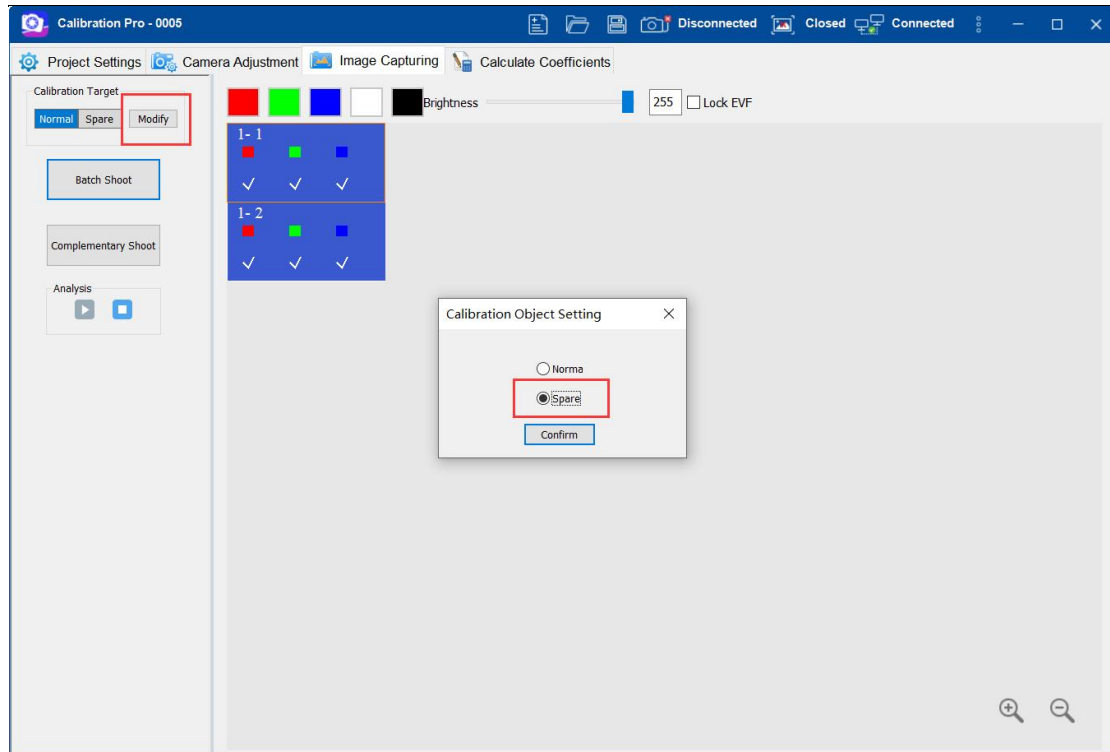

Fig.3-44 Switching to Spare
B. Secondly, move the mouse to the partition map on the right, click to select the photo partition, as shown in Figure 3-44, and a white border will appear on the corresponding screen.